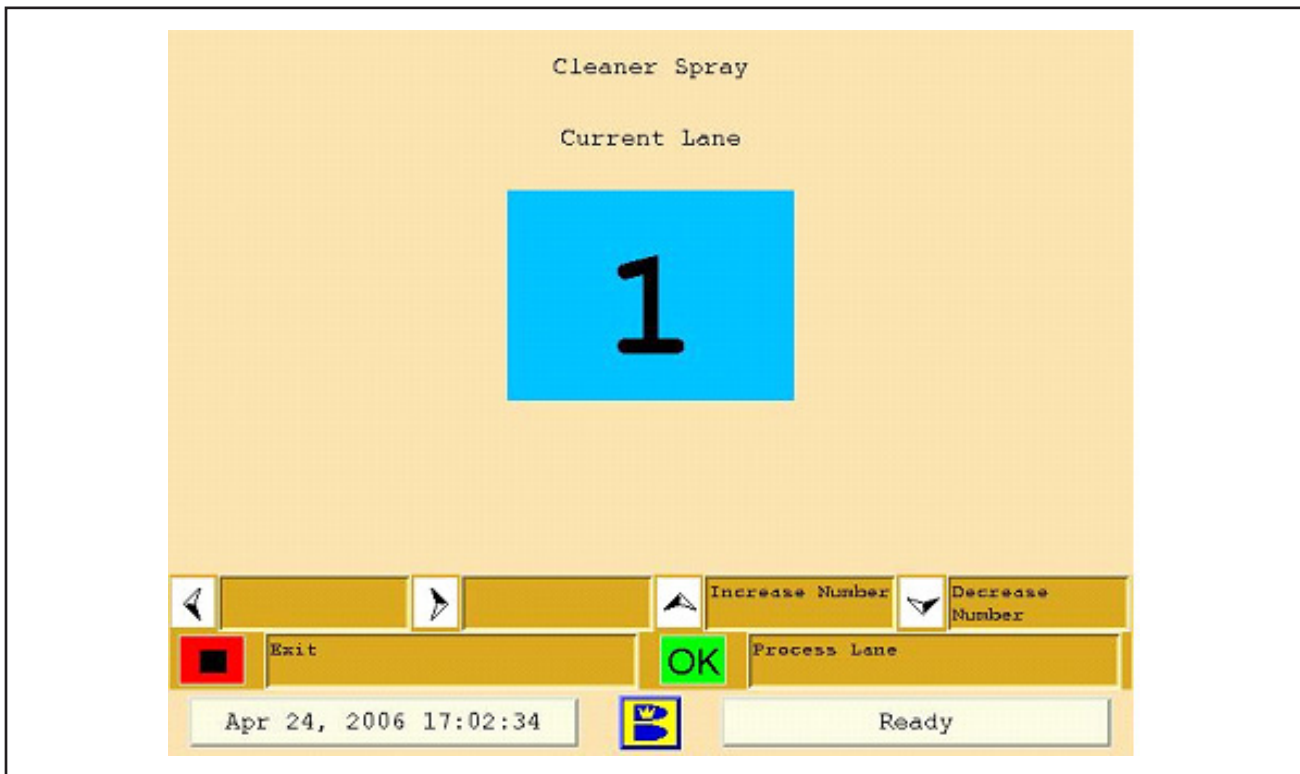

Figure 4-32. Cleaner Spray
4. Select the Cleaner Spray test, press “OK” and the following screen will appear (“Cleaner Spray” will appear at the top of the screen for the spray test). Refer to Figure 4-32.